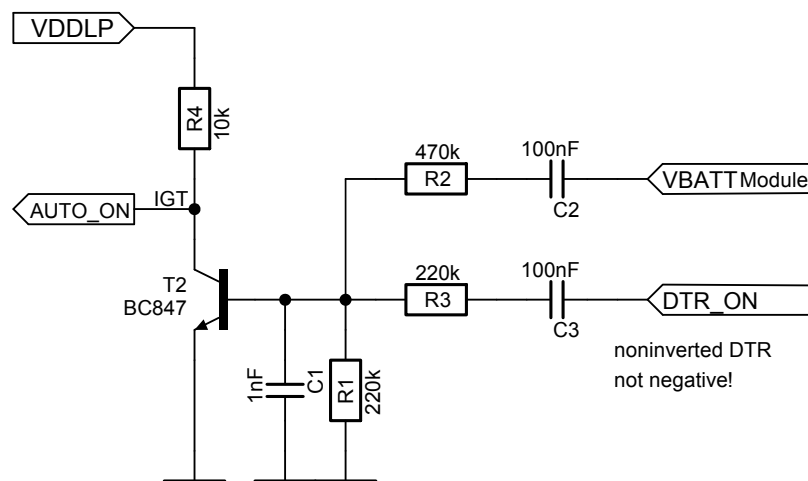
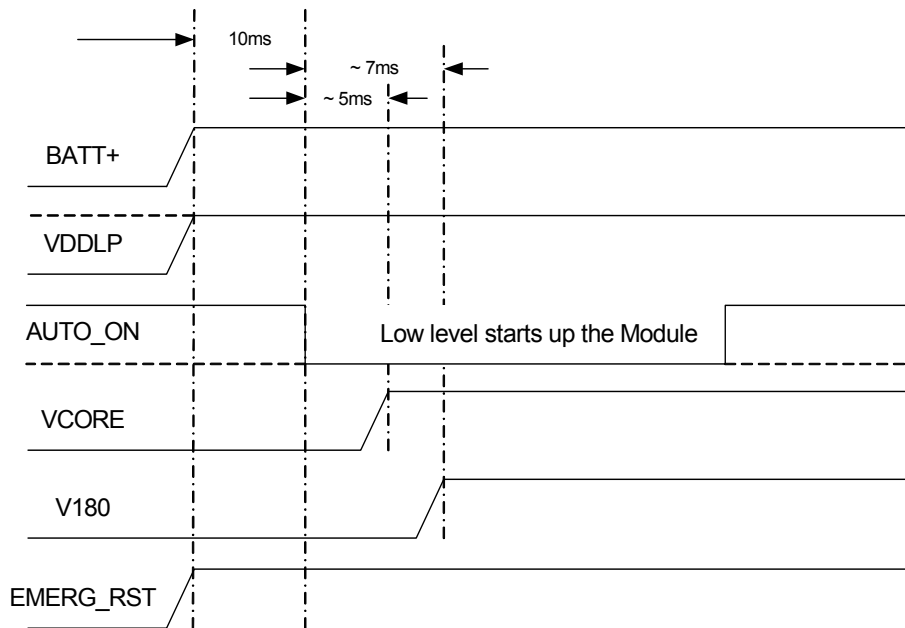

Figure 38: AUTO_ON circuit sample for automatic module switch on
Figure 39: AUTO_ON signal timing
- Figure 38 for an automatic module switch on. The circuit shown in Figure 39 is a recommended circuit for an automatic module switch-on in applications where no external micro-controller is present to control the switch-on otherwise. This circuit will allow a software controlled shutdown of module, e.g., by regular AT^SMSO command or a temperature shutdown, before disconnecting power.
Figure 39 shows the AUTO_ON signal timing.